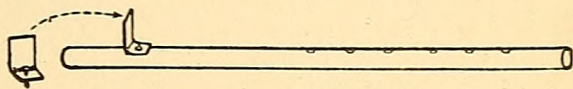

FIG. 541. — The Fife.
**A Fife**; we will use this same principle in making our fife shown in Fig. 541. Cut a triangular piece of tin, bend up one corner, and tack it through this corner